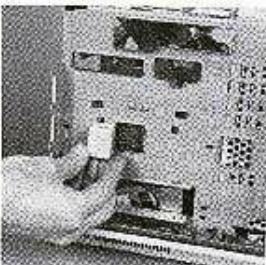

Figure 3-20
- a. Using the adhesive backing, attach the large rubber spacer supplied with the Outboard to the Macintosh chassis. Position the lower end of the spacer against the floppy drive bracket's tab and the right side of the spacer against the flange of the square opening. The angle of the spacer should parallel the angle of the Macintosh's chassis ramp. Figure 3-20 illustrates the correct placement of this spacer.